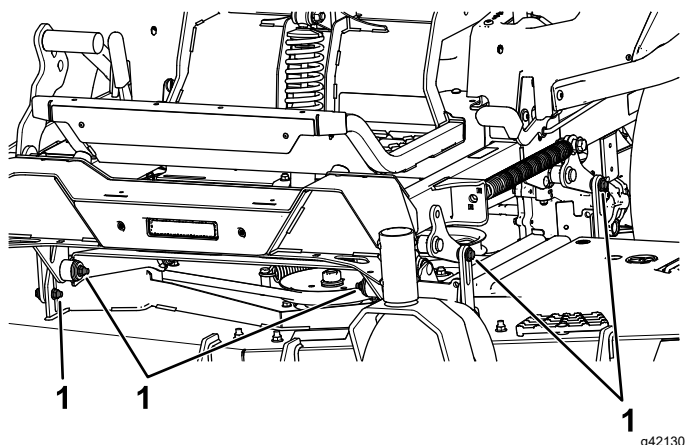

**Figure 111**
7. Remove and retain the bolts and nuts on both sides of the machine (Figure 111).